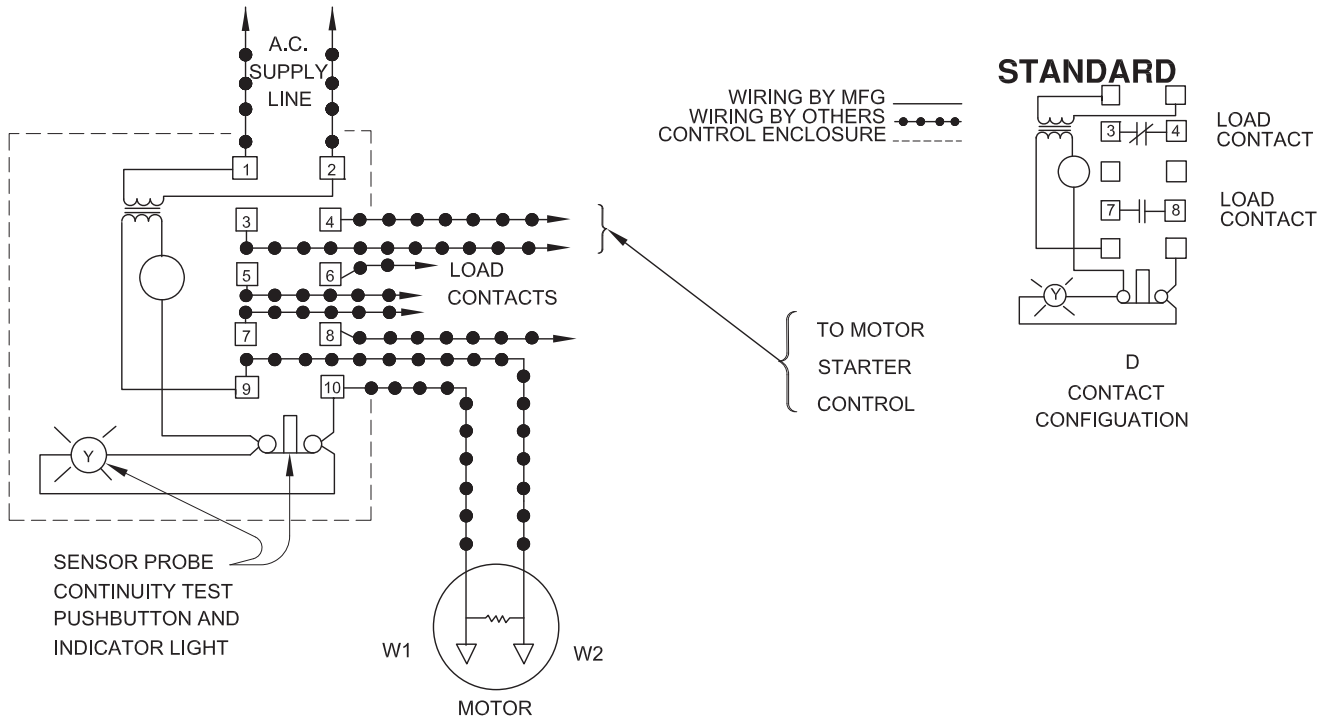

FIGURE 5
- A moisture detection circuit with continuity test circuit (See Fig. 5)